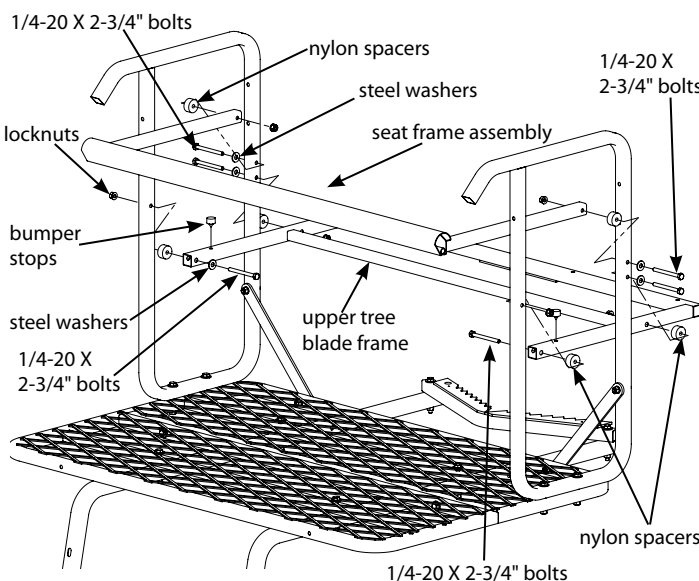

Figure 4
- a. Attach the upper, large tree blade frame (10323) to the inside of side seat support loops using (4) provided 1/4-20 x 2-3/4" bolts, locknuts, steel washers and nylon spacers. **SEE FIGURE 4.** Blade should be on bottom side, towards platform.
- b. Press (2) provided rubber bumper stops (48679) into the top side holes of tree blade frame. **SEE FIGURE 4.** Blade should be on bottom side, towards the platform.
7. Attach the seat frame assembly (10332) to the inside of side seat support loops using (2) provided 1/4-20 x 2-3/4" bolts, locknuts, steel washers and nylon spacers. **SEE FIGURE 4.**
**NOTE: The mesh seat is not shown in FIGURE 4 for ease of assembly view although it is already factory assembled to the metal seat frame. Make sure the metal seat frame is oriented onto the ladder assembly correctly with the "channel" portion facing downward, towards the foot platform. Mesh seat/backrest should temporarily lay on top of seat until its assembly later in assembly instructions.**